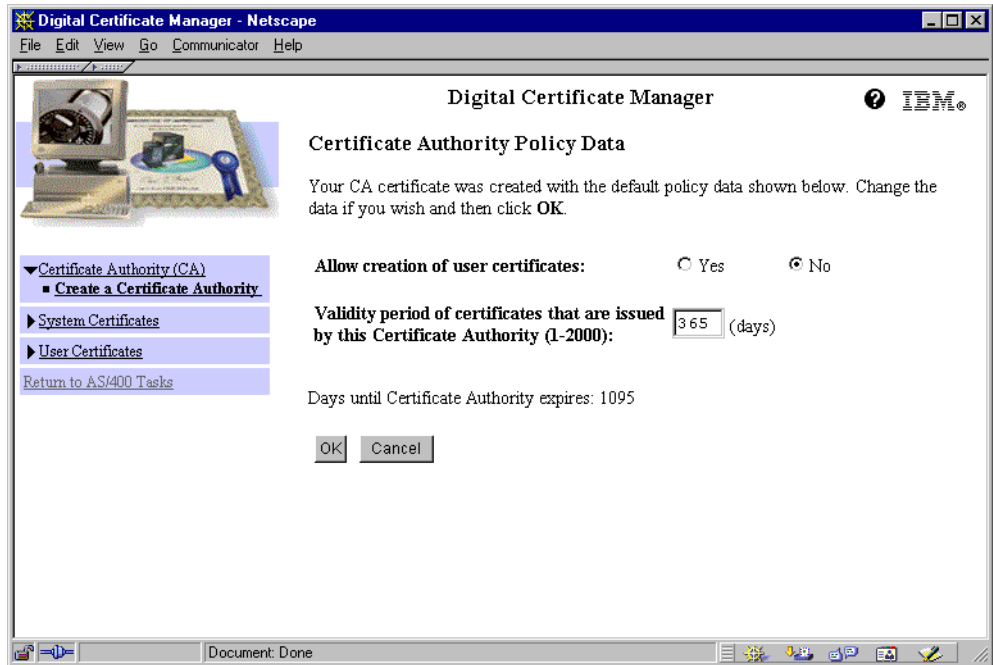

Figure 161. Certificate Authority policy data
- b. At CA Certificate Created Successfully page, select **OK**. Then, select **OK** at the policy data page as shown in Figure 161 on page 194.